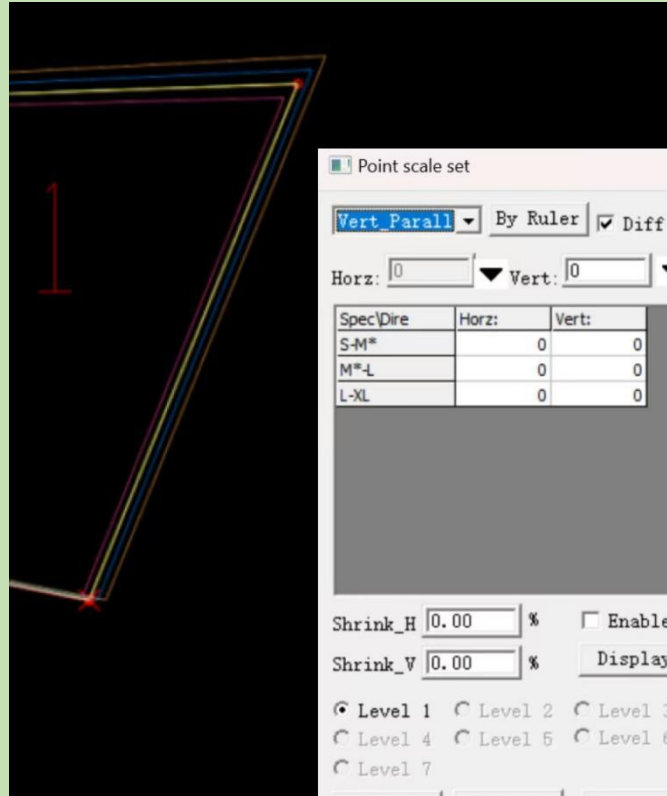

Figure5-38
2. Click on the line that needs to be parallel as shown in Figure 5-38.